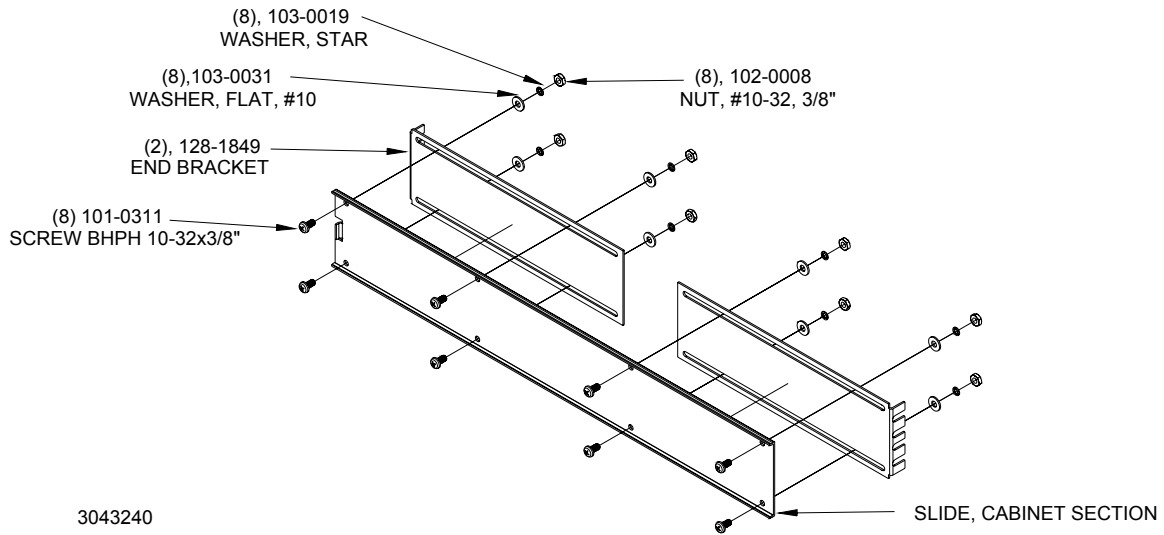

FIGURE 2. ATTACHING END BRACKETS TO SLIDE (CABINET SECTION)
- Attach four end brackets (128-1849) to the two cabinet sections of slides (108-0318) using eight screws (101-0311), flat washers (103-0031), lockwashers (103-0019), and nuts (102-0008) (see Figure 2).